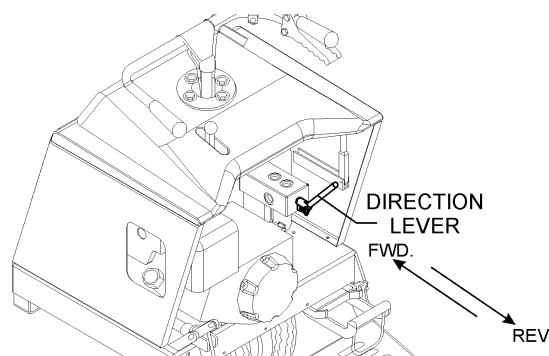

Figure 15. Direction Lever
4. Place the power buggy's direction lever (Figure 15) in the forward direction.
1. With the engine running and parking brake released, place the direction lever (Figure 15) in the forward direction.